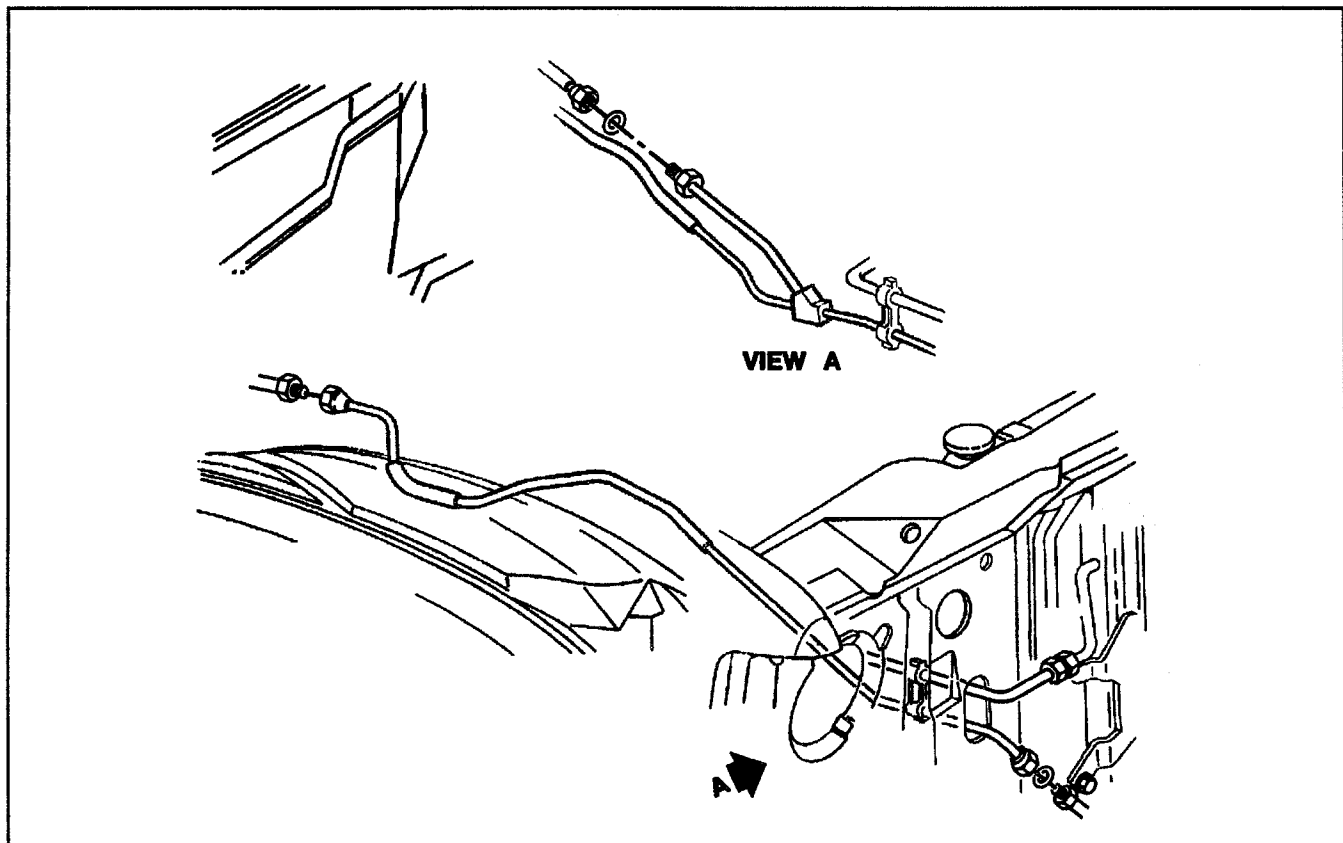

Figure 34—Evaporator Tube
↔ Remove or Disconnect (Figure 34)
↔ Install or Connect (Figure 34)
**Remove or Disconnect (Figure 34)**
**Install or Connect (Figure 34)**